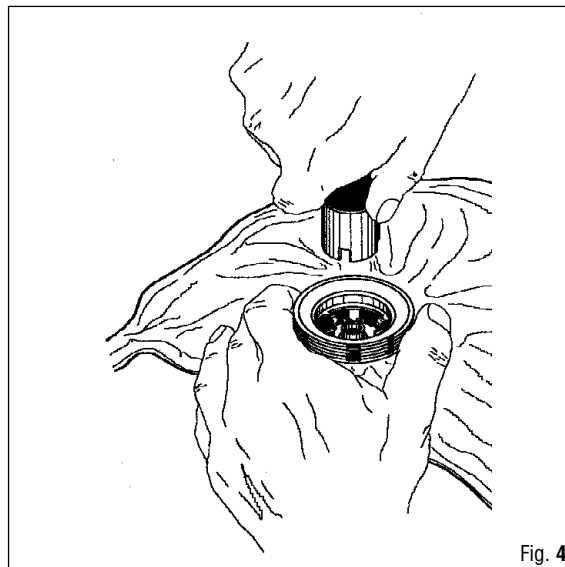

Fig. 4
31. Unscrew the seat connector (66) with the special wrench (C-4). (SEE Fig. 4)
32. Remove the O-Ring (32) from the seat connector (66).
33. Remove the central 2-way insert (61) from the metal pin of the flange.
34. Remove the internal tube coming from the pneumatic inflator from the central 2-way insert (61) and remove the O-Ring 2012.
35. Remove the internal tube coming from the second upper pneumatic valve (if present) from the central 2-way insert (61) and remove the O-Ring 2012.
36. Unscrew the seat connector (66) with the special wrench (C-4). (See Fig. 4)
37. Remove the O-Ring (32) from the seat connector (66)
38. Pull out the internal tube from the 1-way insert (60) and remove the O-ring 2012.